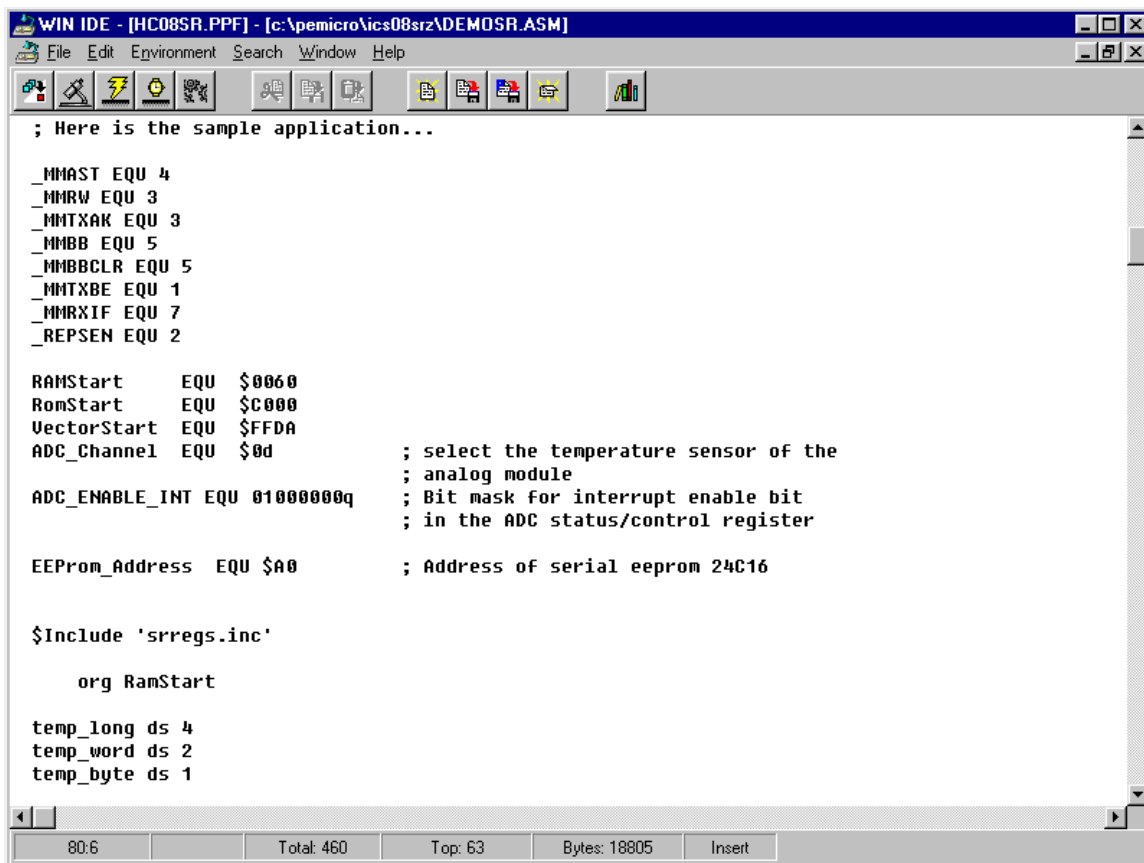

Figure 7. P&E's WINIDE Window
- c. Assemble/Compile the file (see **Figure 7**).